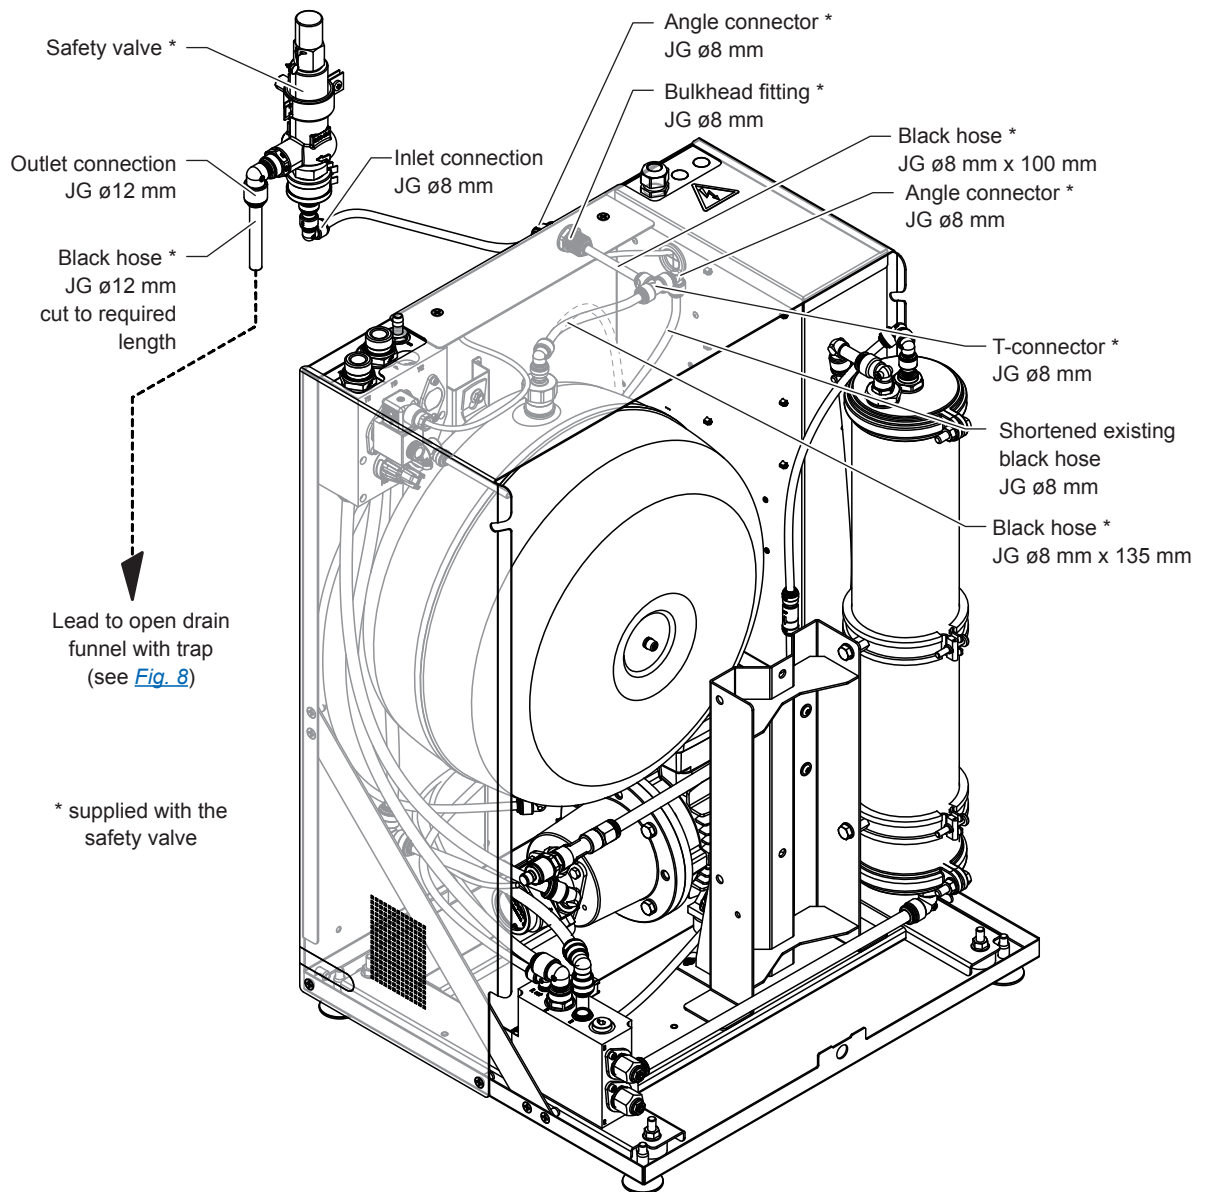

Fig. 15: Connecting the pressure tank safety valve to the Condair RO-E(+) 40/100 pure water system (figure shows RO-E 100)
4. Connect the ø8 mm JG T-connector with installed angle connector with the hoses shown in Fig. 15.